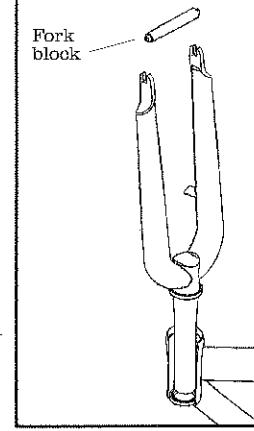

Fig. 19
23. Insert the steerer into the headtube and upper bearing (Fig. 19).